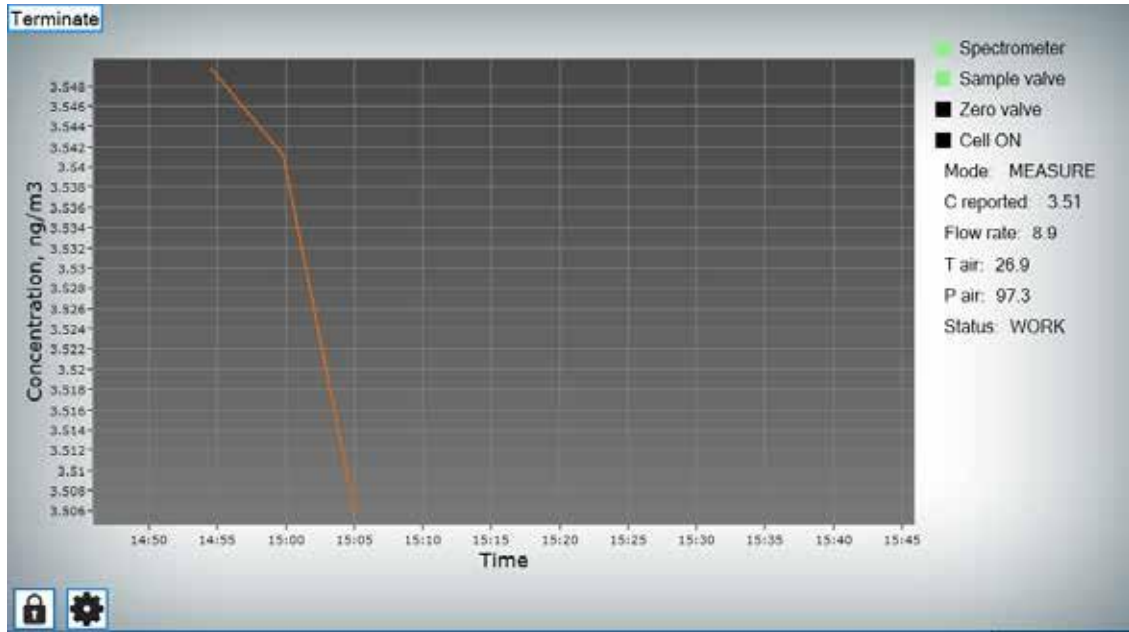
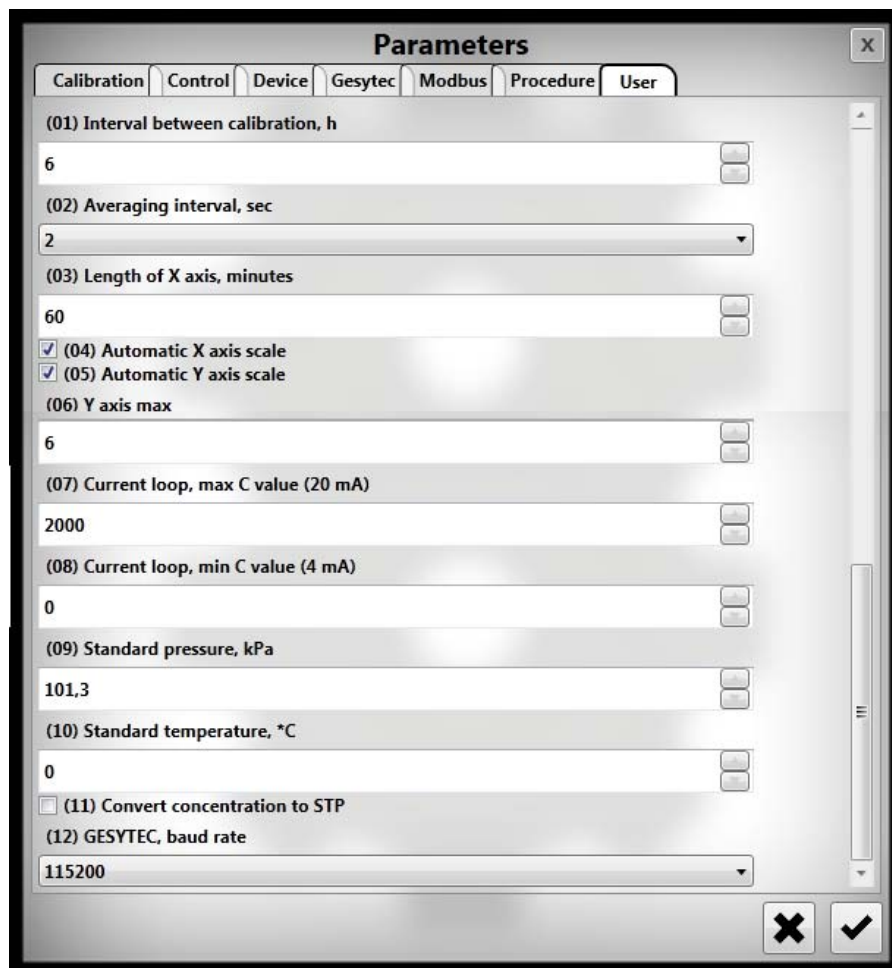

Figure 2.4. View of the display on measurements
Figure 2.5. View of the Parameters window
On measurements the window shown in the Fig. 2.4 is displayed on the computer screen. Length of the X-axis is defined by a parameter **Length of X axis, minutes** parameter on the User tab and renewed automatically. Scale on the Y-axis is automatically managed by the software depending on maximum of the concentration values. It is possible to change the current scale of the graph using mouse or stylus:
To change the monitor parameters click the  button in the left lower corner of the **Lumex Observer** software (Fig. 2.4.). The window shown in the Fig. 2.5. will be displayed in the screen
Set the following parameters on the User tab of the Parameters window (values by default are shown in the Fig. 2.5.):
The Monitor automatically repeats calibration in accordance with the value of the parameter **(01) Interval between calibration, h** on the User tab of the Parameters window (see Fig. 2.5).